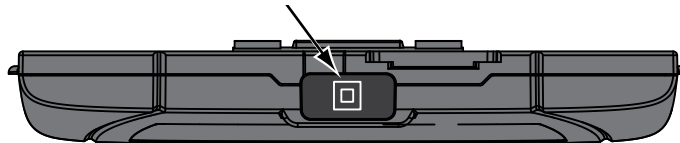

Figure 8-2 Scope Module USB jack location
3. Locate the USB jack on the bottom of the Scope Module (Figure 8-2).